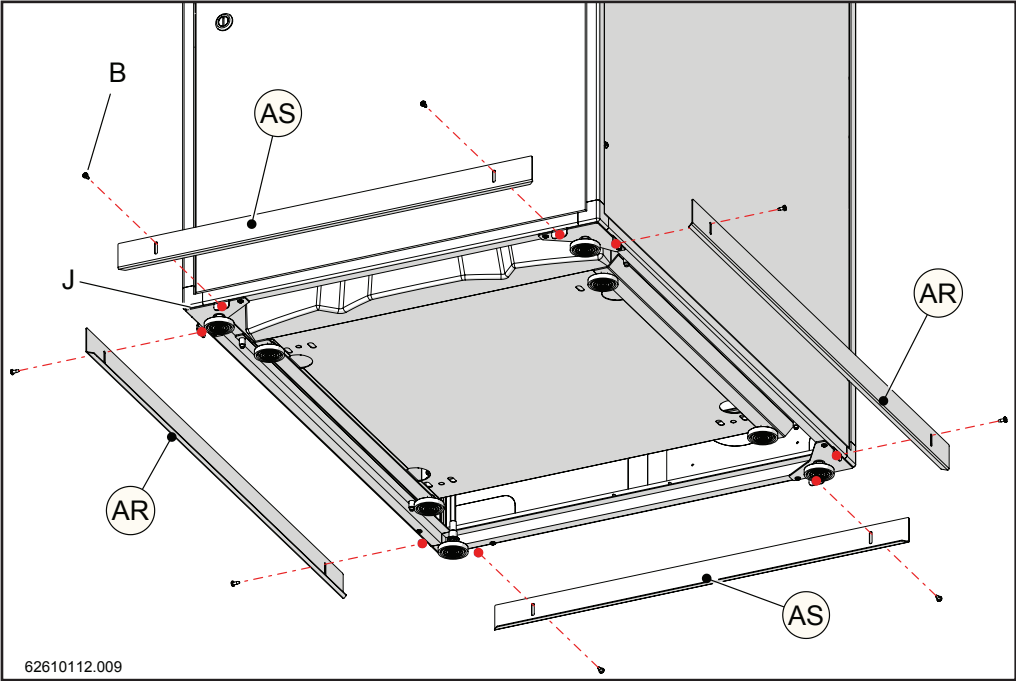

Figure 12-31
15.- Finally, fasten the metal plates (AR) and (AS), with screws "B", to the lower covering "J"; as shown in figures 12-31 and 12-32.